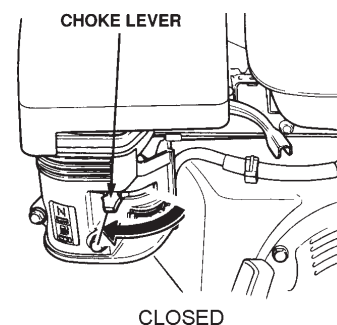

Figure 4. Engine Choke Lever (Closed)
- Place the **choke lever** (Figure 4) in the "CLOSED" position if starting a **warm engine** or the **temperature is warm**.